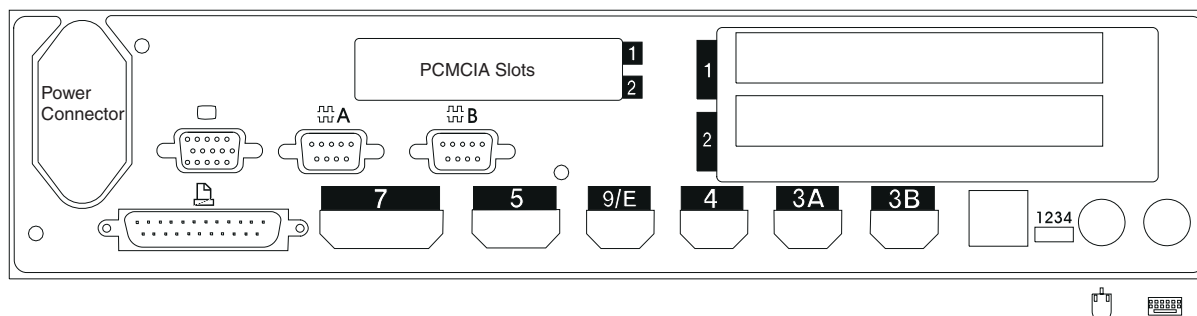

Figure 99. Rear of 4694-0x4/1x4 Point-of-Sale Terminal
10. Mark an X on Figure 99 to indicate the sockets in which POS devices are connected.